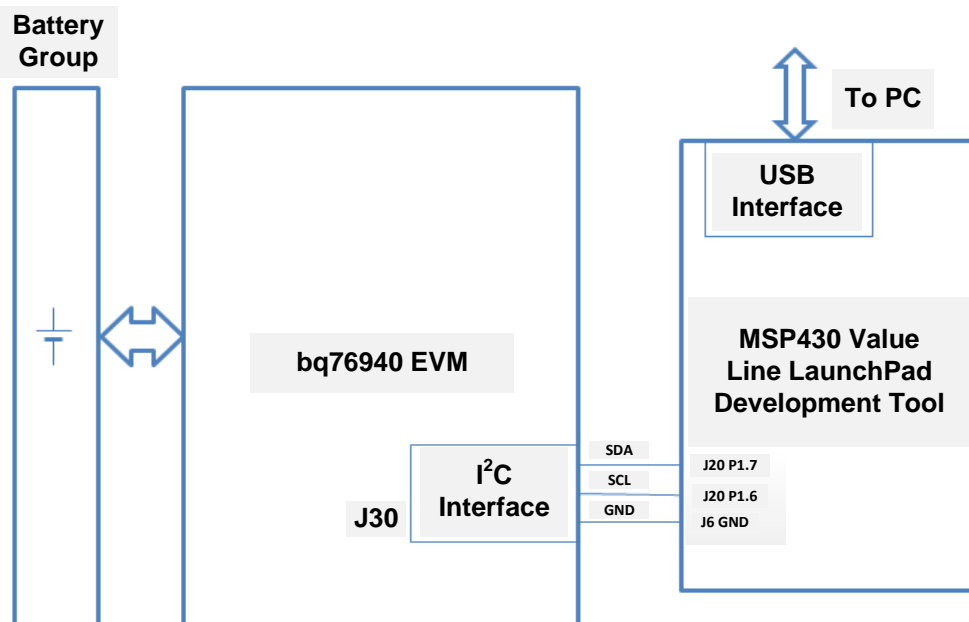

Figure 1. Simplified Connection Diagram
The I²C communication sample code is based on the bq76940 EVM and MSP430 value line LaunchPad™ development tool, Figure 1 is the simplified connection diagram.
- Changed device name to bq76940 in Figure 1. 2